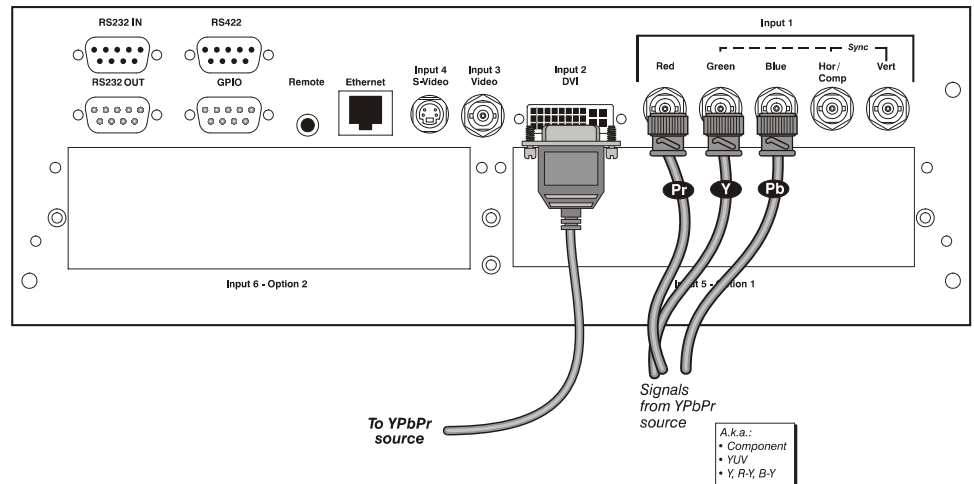

Figure 2.8. Connecting YPbPr sources
- Connect a YPbPr signal (component video) to **INPUT 1** or **INPUT 2** as shown in Figure 2.8.